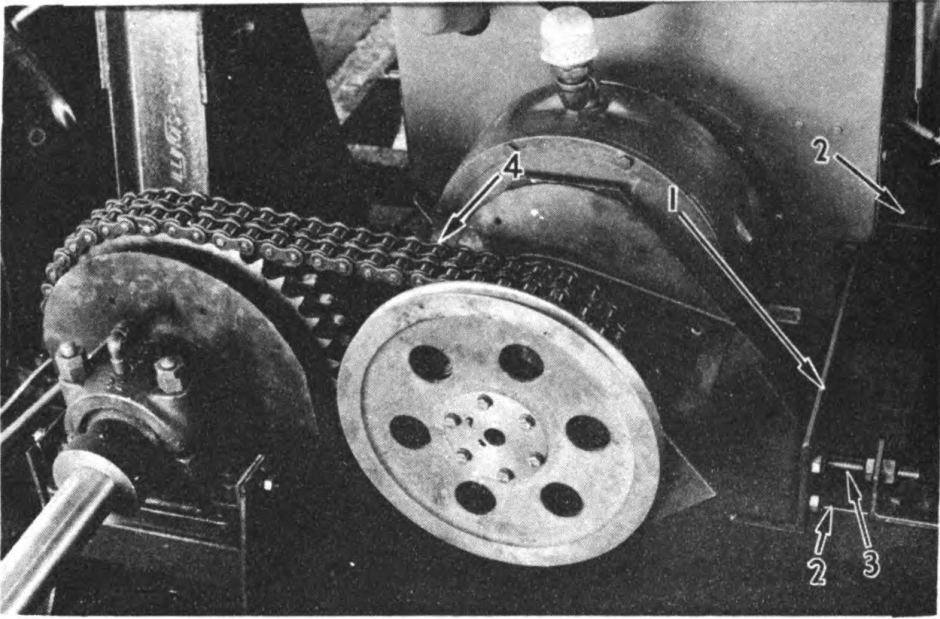

FIG. 27 - DRYER MAIN DRIVE CHAIN WITH CHAIN GUARD REMOVED.
This chain may need adjusting after preliminary stretch is removed. To adjust, first loosen guard hold down bolts and loosen bolts that hold the sliding plates in position around the main jackshaft and cold elevator drive shaft. Then mark the location of engine base (1) Fig. 27, on engine support frame (2) and loosen engine hold down bolts. Next turn thrust take-up bolts (3) until sag on top run (4) of the chain is not more than 1/4". Be sure that both ends of engine have been moved the same amount. This can be done by measuring the distance from new position of engine base to marks made before moving. Tighten the lock nuts on the take-up bolts and tighten down engine bolts.